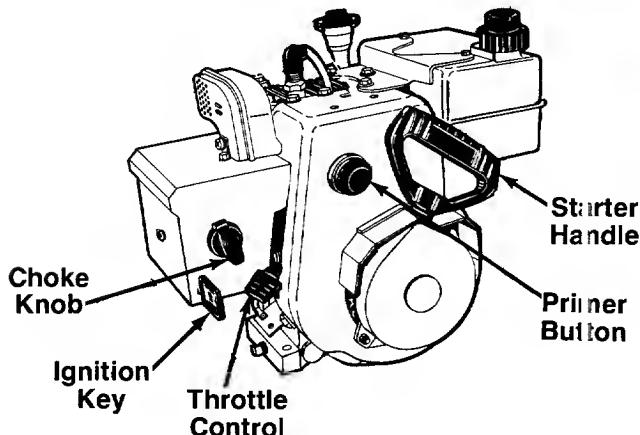

FIGURE 22.
2. Move throttle control up to **FAST** position. Insert ignition key into slot. See figure 22. Be certain it snaps into place. **Do not turn key.**
4. Push primer button two or three times. See figure 22. If engine is warm, push primer button once only.
5. Grasp starter handle (see figure 22) and pull rope out slowly, until it pulls slightly harder. Let rope rewind slowly.